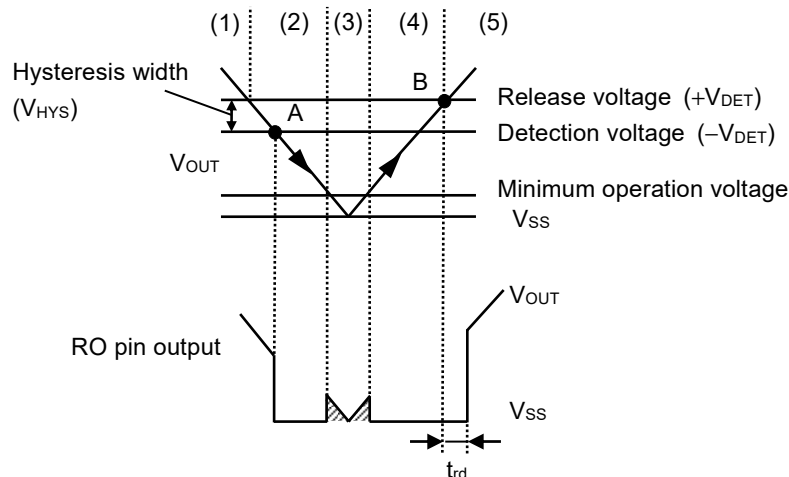

Figure 40 Timing Chart of Detector Block
- (1) When the output voltage ( $V_{OUT}$ ) of the regulator is release voltage ( $+V_{DET}$ ) of the detector or higher, the Nch transistor (N1 and N2) are turned off and "H" is output to the RO pin. Since the Pch transistor (P1) is turned on, the input voltage to the comparator (C1) is  $\frac{R_B \cdot V_{OUT}}{R_A + R_B}$ .
- (2) Even if  $V_{OUT}$  decreases to  $+V_{DET}$  or lower, "H" is output to the RO pin when  $V_{OUT}$  is the detection voltage ( $-V_{DET}$ ) or higher. When  $V_{OUT}$  decreases to  $-V_{DET}$  (point A in **Figure 40**) or lower, N1 which is controlled by C1 is turned on, and  $C_{DLY}$  is discharged. At the same time, N2, which is controlled by the delay circuit, is turned on, and "L" is output to the RO pin. At this time, P1 is turned off, and the input voltage to C1 is  $\frac{R_B \cdot V_{OUT}}{R_A + R_B + R_C}$ .
- (3) If  $V_{OUT}$  further decreases to the IC's minimum operation voltage or lower, the RO pin output becomes uncertain. If the RO pin is pulled up, "H" is output.
- (4) When  $V_{OUT}$  increases to the IC's minimum operation voltage or higher, "L" is output to the RO pin. Moreover, even if  $V_{OUT}$  exceeds  $-V_{DET}$ , the output is "L" when  $V_{OUT}$  is lower than  $+V_{DET}$ .
- (5) When  $V_{OUT}$  increases to  $+V_{DET}$  (point B in **Figure 40**) or higher, N1 is turned off and  $C_{DLY}$  is charged. When  $V_{DLY}$  increases to the threshold voltage (1.25 V typ.), N2, which is controlled by a delay circuit, is turned off and "H" is output to the RO pin.